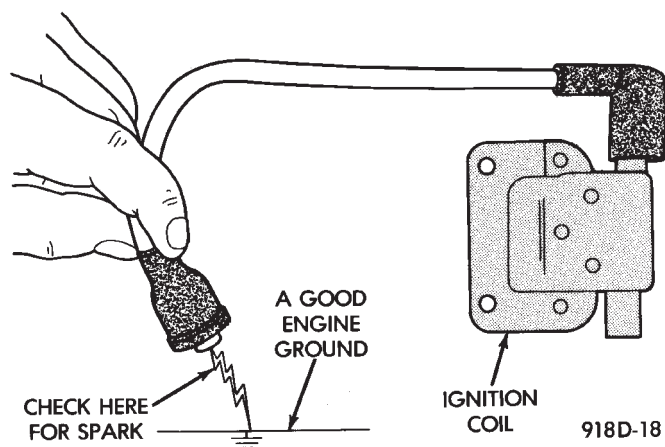

Fig. 10 Checking for Spark—Typical
(1) Disconnect the ignition coil secondary cable from center tower of the distributor cap. Hold the cable terminal approximately 12 mm (1/2 in.) from a good engine ground (Fig. 10).